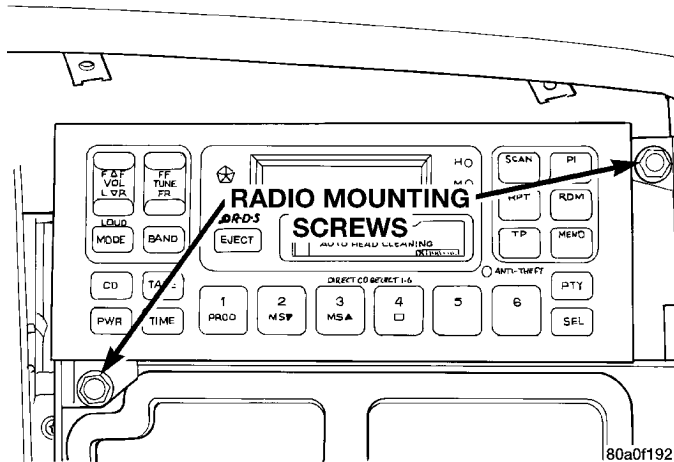

Fig. 3 Radio Remove/Install
(4) Pull the cluster bezel rearward and move it to the outboard side of the steering wheel to remove it from the instrument panel.
(5) Remove the two screws that secure the radio face plate to the instrument panel (Fig. 3).